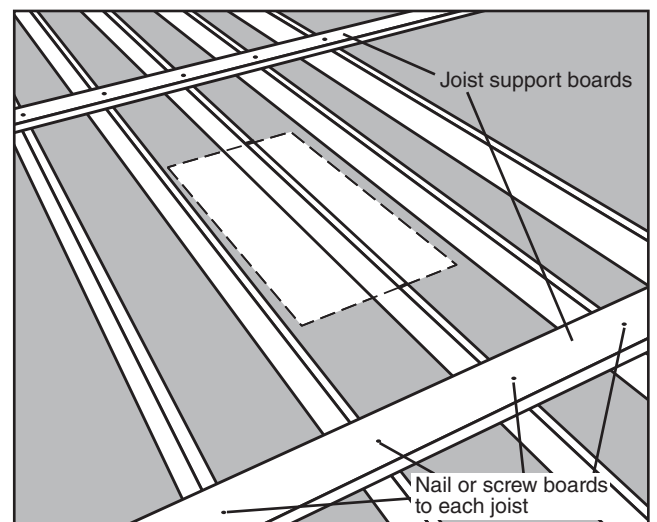

FIGURE 9
**Step 2.** Cut (2) joist-sized boards long enough to span (2) joists on each side of your chosen location (See Figure 9). These boards will support the joists that will be cut and help keep the ceiling from sagging or completely collapsing while you are working in the overhead space.
**Step 3.** Place these boards approximately 24" from the edge of your chosen location and nail (See Figure 9).